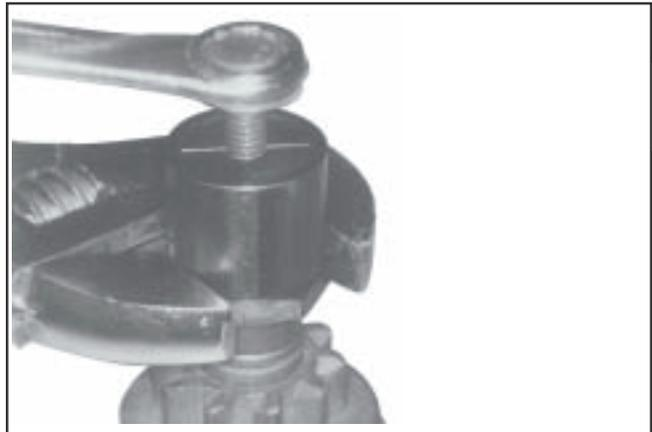

Figure 8-13. Holding Tool and Turning Center Screw (Clockwise) to Remove Retaining Ring.
5. Thread the center screw into the removal tool until you feel resistance. Use a wrench (1 1/8" or adjustable) to hold the base of the removal tool. Use another wrench or socket (1/2" or 13 mm) to turn the center screw clockwise (see Figure 8-13). The resistance against the center screw will tell you when the retaining ring has popped out of the groove in the armature shaft.